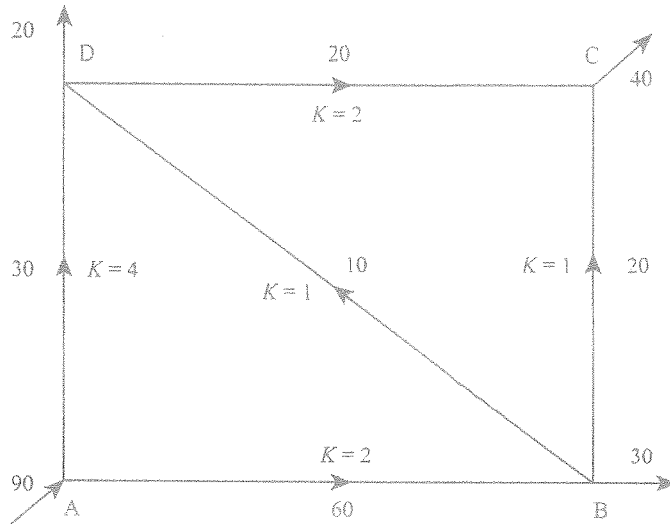

Figure Q5
- Q5 a) Figure Q5 represents a piping network consisting of five pipes. Calculate the flow rate in each pipe of the network for two iterations. For each pipe, head loss h_f is given by KQ^2 . The values of K for various pipes and also the inflow or outflows at nodes are also given in the Figure Q5. For the first trial, the assumed discharges (liters/minutes) are also indicated in the diagram.